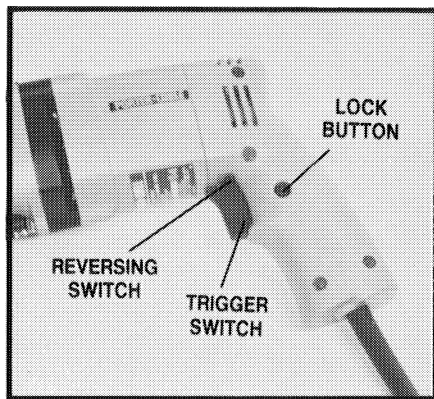

Fig. 2
1. Squeeze TRIGGER SWITCH (Fig. 2) to start motor. Release trigger to stop motor. As the trigger switch is squeezed the drill speed increases.
3. **REVERSING SWITCH** - Some models are provided with a reversing switch located as indicated in Fig. 2. These models will operate in either the forward direction (clockwise rotation) for drilling holes, or the reverse direction (counterclockwise rotation) for releasing jammed drill bits. For counterclockwise rotation, stop the motor by releasing the trigger switch and move the reversing switch toward the right side of the drill, or in the opposite direction for clockwise rotation.